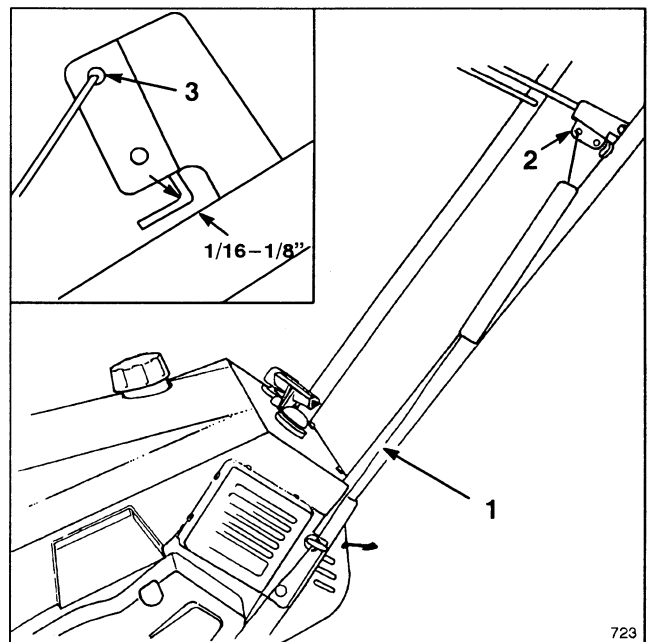

Figure 9
ADJUSTING CONTROL BAR (Fig. 9–10)
2. **CHECK ADJUSTMENT** (Fig. 9)—Move control bar back toward handle until slack in cable is removed. Gap between control bar bracket and handle should be approximately $1/16$ "– $1/8$ ". If cable is too loose or too tight, proceed to step 3 for adjustment procedure.